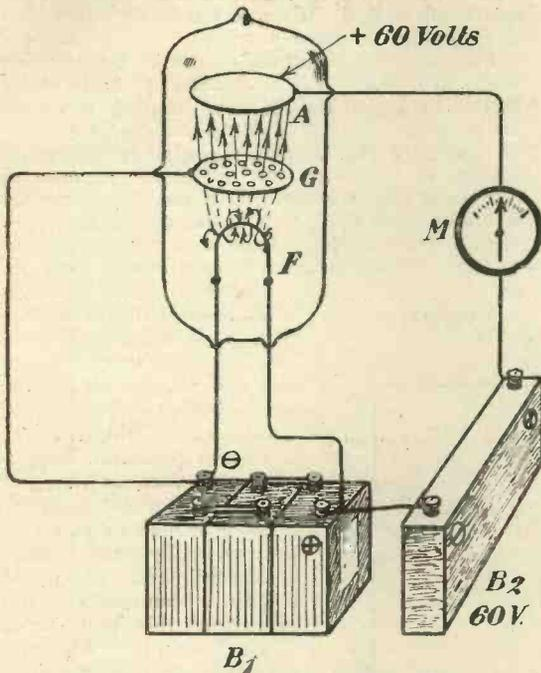
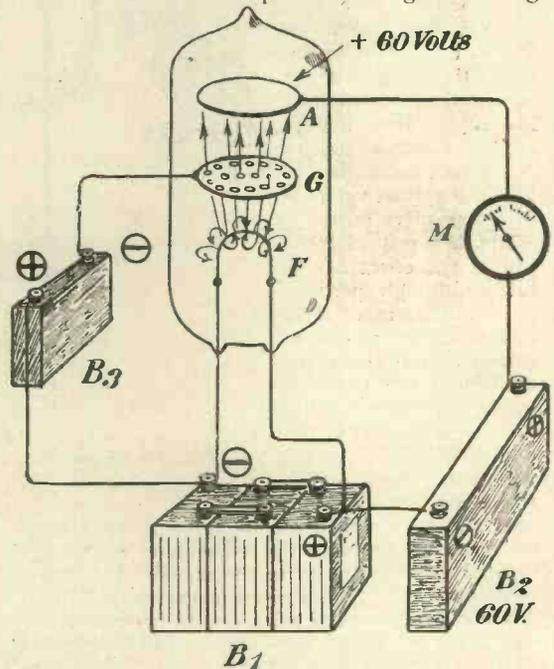

Fig. 2.—Diagram relating to grid action.
Fig. 3.—A modified circuit relating to grid action.
The grid in a valve is for the purpose of controlling the steady flow of electrons from the filament to the anode and round the anode circuit. Its control action is not a mechanical, but an electrical one. The potential voltage of the grid will determine very largely the amount of the anode current; in other words, the number of electrons flowing from the filament to the anode. The effect of the grid will best be understood by reference to Fig. 2. We have here a valve V containing a filament F, a flat grid G consisting of a disc of metal with a large number of holes in it, and another disc A which is the anode. Across the anode and the filament we have a high-tension battery  $B_2$ , a milliammeter (M) being connected in the circuit to measure the current in milliamperes flowing in the anode circuit.
Fig. 3 shows a similar circuit to Fig. 2, except that a battery  $B_3$  of 4 volts has been connected in between the grid and the negative side of the accumulator  $B_1$ . The negative terminal at  $B_3$  is connected to the grid, whereas the positive terminal is connected to the accumulator and therefore to the filament  $F$ . The grid is now at -4 volts, and it will be found that the current through the milliammeter has been considerably reduced. This is because the grid, being now at a negative potential, will repel some of the electrons which would have gone to the anode. The negative charge on the grid partially neutralises the positive voltage on  $A$ . The electrons which are prevented from getting to the anode  $A$  return again to the filament. As long as the battery  $B_3$  is connected in the grid circuit, the anode current will remain at a reduced value.
anode. We considered in our original Fig. 2 that half the electrons emitted went to the anode, the other half returning to the filament. If, however, we go on increasing the positive voltage of the grid, most of those electrons which reluctantly stayed behind are induced to join in the main stream and pass to the anode. If we keep on increasing the positive voltage of the grid, a point will be reached when the grid has helped all the electrons emitted from the filament to go to the anode and under these conditions the anode current is said to be saturated. Any increase in the positive grid potential will not result in any greater increase of anode current.
The slightest change in grid voltage will cause a large variation in the anode current. We are controlling with very small forces a large force in the anode circuit of the valve. The anode battery supplies the energy for the anode circuit, but this energy does not get mixed up at all with the input energy. The anode and the grid circuits are kept absolutely distinct. In Fig. 3, the anode circuit consists of a filament, anode A, milliammeter M, high-tension battery B2, and the filament F again. The grid circuit, however, is G, the battery B3, the filament F.